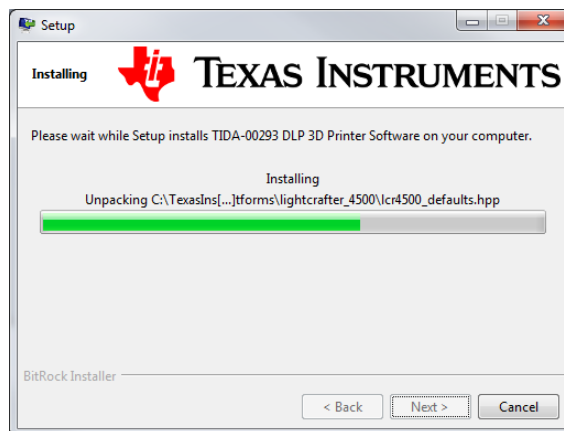

Figure 2-16. DLP 3D Printer Reference Design File Installation Progress
7. Wait for the files to install in the location specified, as shown in Figure 2-16.